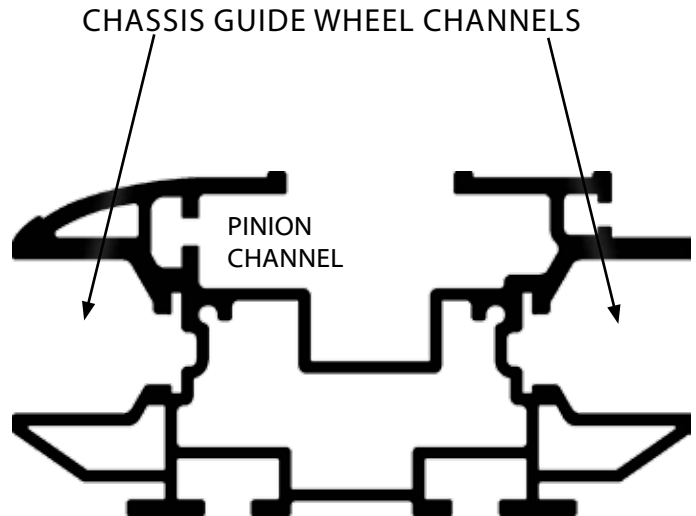
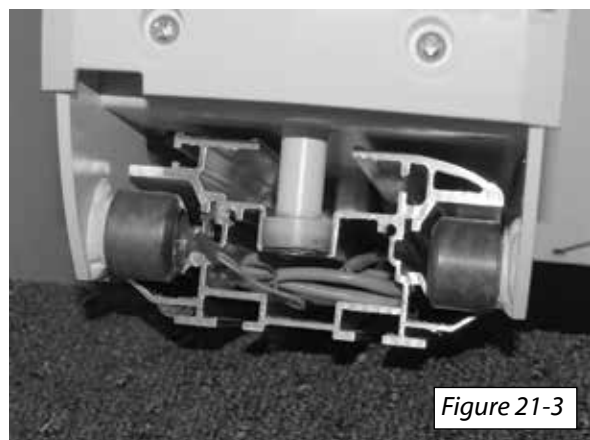

Figure 21-1
Figure 21-3
2. The chassis slides onto the top of the rail. Carefully pick up the chassis and align the pinion and guide wheels with the rail channels. Insert the chassis onto the rail. [Figure 21-1 and 21-2] Let it slide down until it stops (the pinion gear will make contact with the gear rack, allowing it to stop). [Figure 21-3]